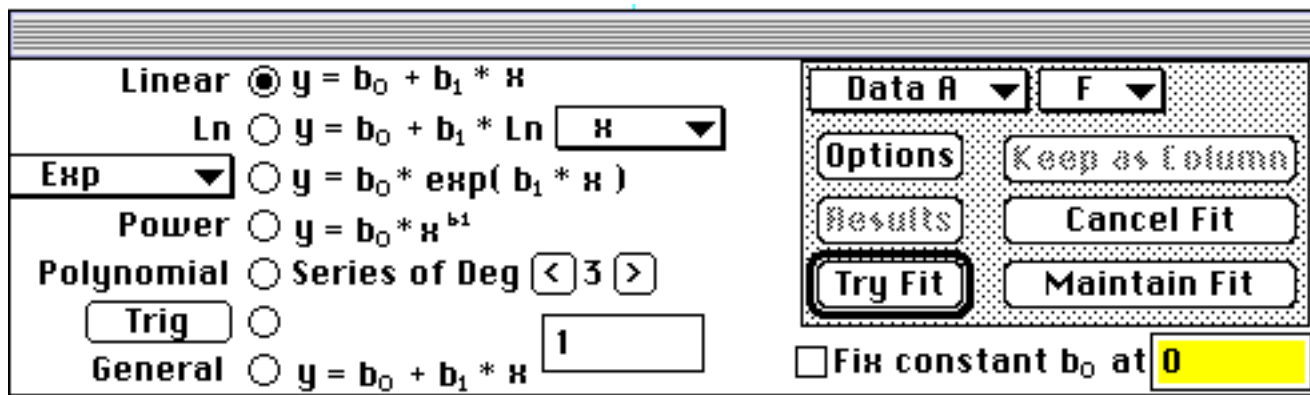

Figure 16. Window for defining the fitting function for Activity 4
- Select **Fit...** under the **Analyze** menu. A window like that in Figure 16 will appear in which you specify the kind of mathematical formula to try.